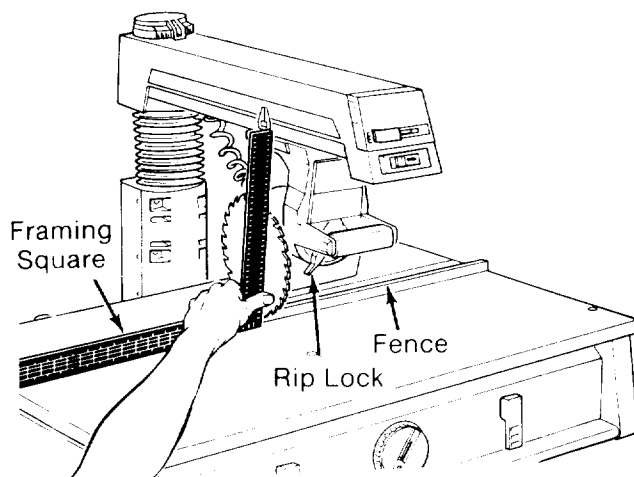

Fig. 65
3. Place the long edge of the framing square on the *table* and the short edge against the *blade*. Make sure that the square is against the blade surface and not the set of a tooth. (Figure 65)